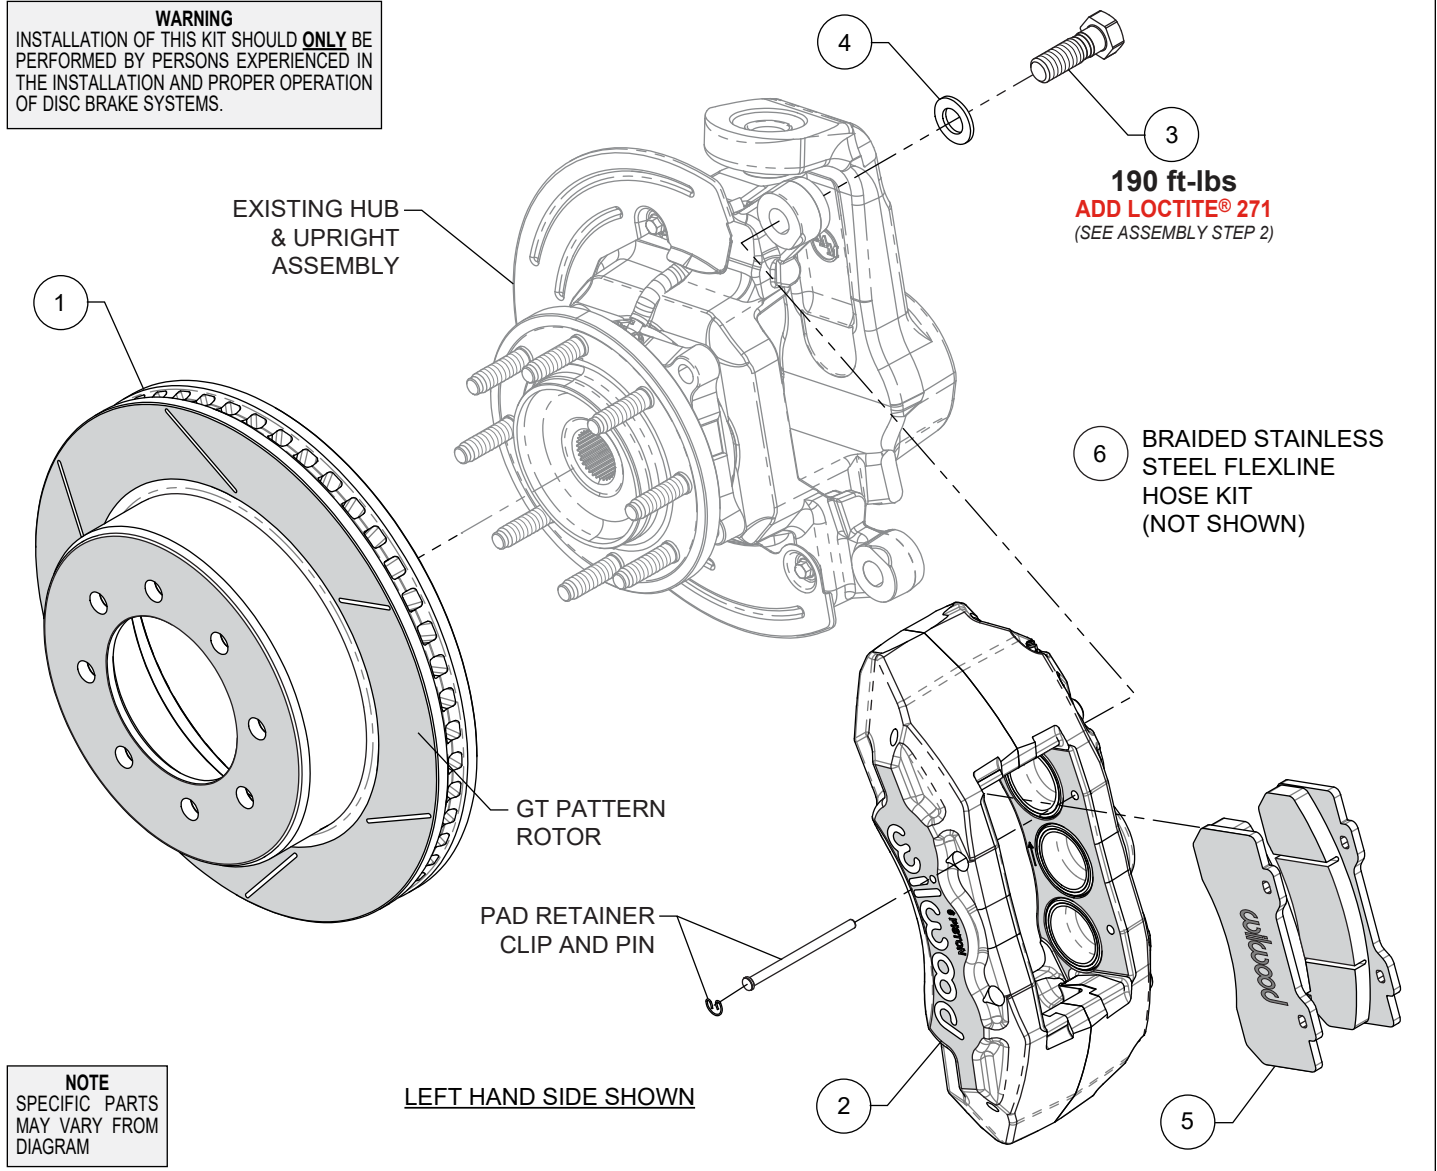

Figure 1. Typical Installation Configuration
Numbers in parenthesis refer to the parts list and Figure 1 on the preceding pages.
**STEP 1** Slide the rotor (1) onto the hub. **NOTE:** *The rotor must fit flush against the hub flange or excessive rotor run out may result.* Install three lug nuts (finger tight) to keep the rotor in place while continuing with the installation, Photo 1.
**STEP 2** **NOTE:** *This kit contains distinct right and left hand calipers that must be mounted in a specific direction, as described below.* Ensure that the caliper is mounted so the largest pistons are at the rotor exit end of the caliper, in relation to the forward direction of the rotor. Mount the caliper (2) onto the OEM caliper mounting bosses of upright using bolts (3) and washers (4), as shown in Photo 2 and Figure 1. Apply red *Loctite*® 271 to bolt threads, and torque to value shown in Figure 1.
**STEP 3** Remove the two pad retaining pins from the caliper by carefully popping out the pin retaining clips and sliding out the pins. Insert the brake pads (5) into the caliper, with the friction material facing the rotor, as shown in Photo 3. Secure the brake pads in place with the pad retaining pins and clips, Photo 4.
**STEP 5** Attach brake line to caliper. **NOTE:** *OEM rubber brake hoses generally cannot be adapted to Wilwood calipers.* Install Wilwood's braided stainless steel flexline hose kit (6), p/n 220-15672, included with this kit. The caliper inlet fitting is a 1/8-27 NPT. Use the included steel adapter fitting at the caliper (use PTFE tape on the pipe threads of adapter fitting for proper sealing to caliper). Note the final orientation of the caliper inlet adapter fitting as shown in Photo 6.